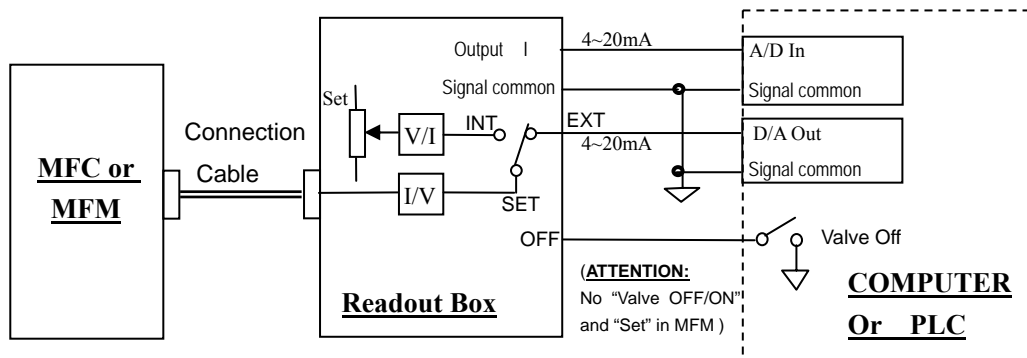
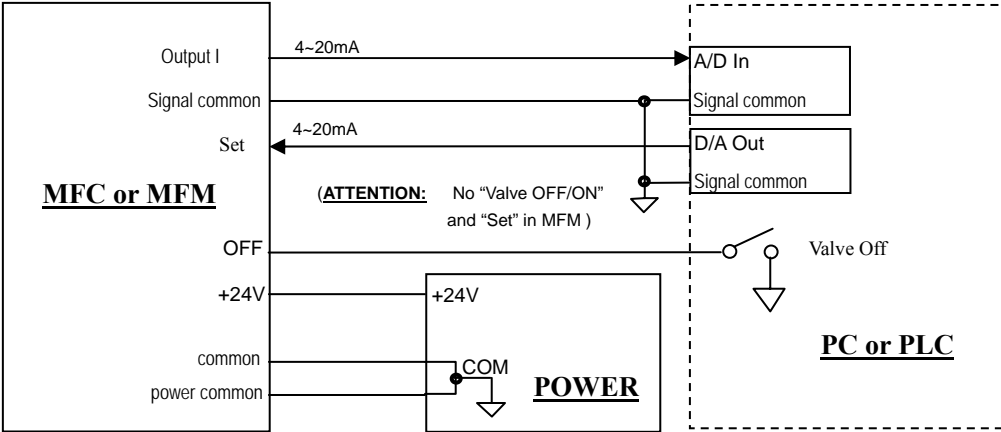

Figure 7. Connection with PC through Readout Box
Figure 8. PC Directly Connection
- a. Connection through Flow Readout Box with PC or other external signal. (Figure 7)
If PC or PLC need perform the OFF function of valve control, it could be accomplished by use one RELAYS (two sets) transfer contacts, showing in Figure 7.
- b. PC Directly Connections (Figure 8)
Please have the reference in Figure 7 and Figure 8, after MFC warming up, it could have PC startup.